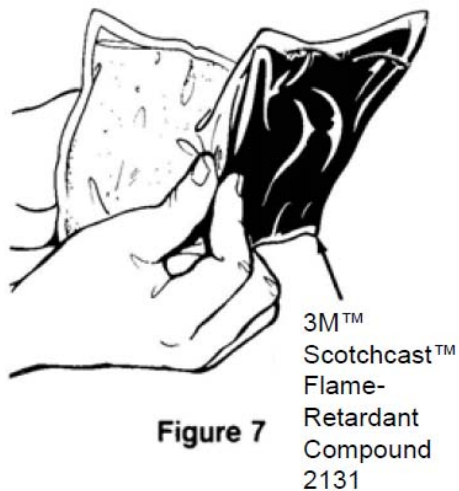

Figure 7
2. Firmly grasp each flat side of the closed mixing pouch near the center barrier; at the same time pull sides of barrier apart and roll sides of thumbs through barrier. Break the barrier all the way across to the side seals. (Figure 7)